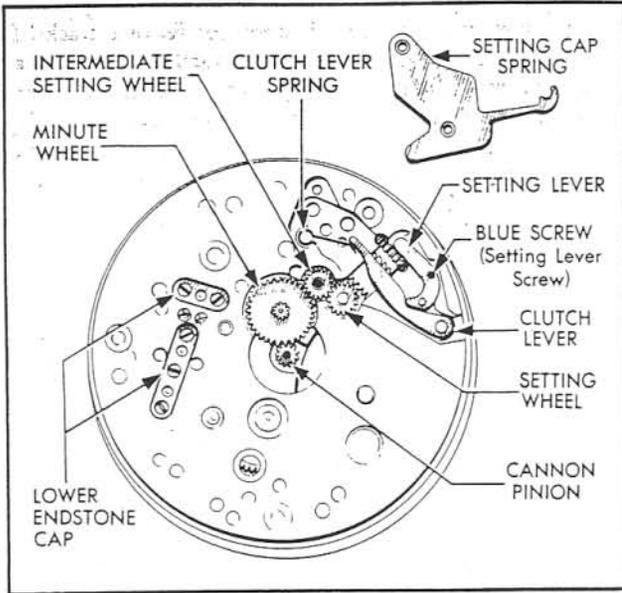

Figure 22—Pillar Plate Assembly, Dial Side
(1) SETTING MECHANISM.—Reassembly of the watch starts with the pillar plate. First replace the dial foot screws in order not to lose them. Next install the balance lower endstone cap and the escapement lower endstone cap in their recesses on the dial side of the pillar plate as shown in figure 22. The balance cap has two screws and the escapement cap has three. Turn the pillar plate over and put the setting lever (blue) screw in its hole in the pillar plate. Then install the setting lever on the dial side, so that the lower end of the blue screw holds it loosely against the dial side of the pillar plate.
With the dial side up, install the clutch lever and the clutch lever spring. The lower pin on the clutch lever should engage the groove in the clutch, and the clutch lever spring should bear against the end of the clutch lever as shown in figure 22.
Re-install the setting wheel, the intermediate setting wheel, and the minute wheel over the posts on the dial side of the pillar plate (figure 22). Replace the setting cap spring and its two screws. The recess in the long end of the setting cap spring should be under the pin of the setting lever.